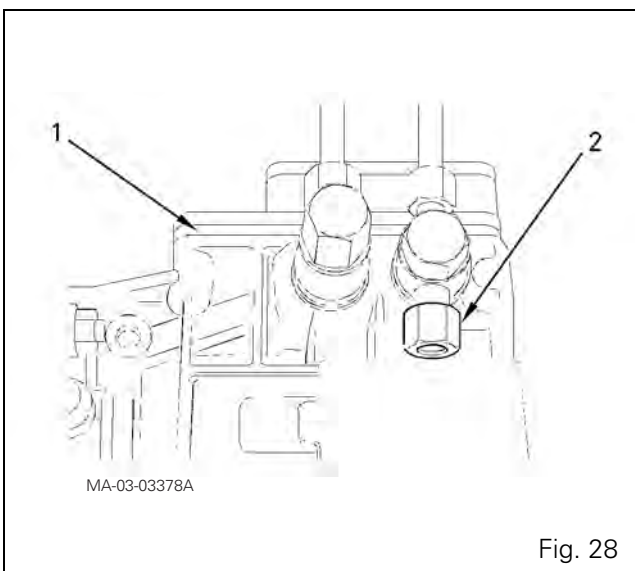

Fig. 28
145. Loosen the injection pump nut (2) (Fig. 28).